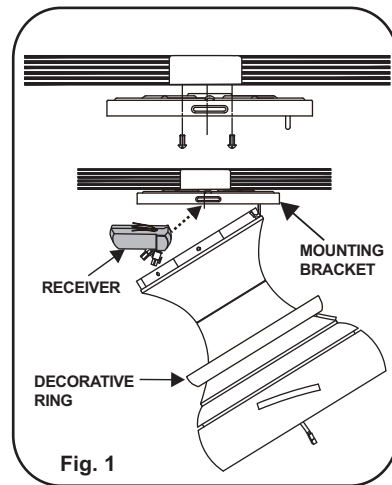

Fig. 1
Step 1. Attach the mounting bracket to the outlet box with two screws and washers provided. Make sure the bracket is tight and secured. (Fig. 1)
Step 2. Remove the double-sided tape on the mounting bracket and stick the receiver on the mounting bracket. (Fig. 1)
Step 3. Place decorative ring onto the fan motor/housing assembly. Lift fan into position by hanging the motor assembly onto the hook from the ceiling mounting bracket allowing it to hang freely. (Fig. 1)